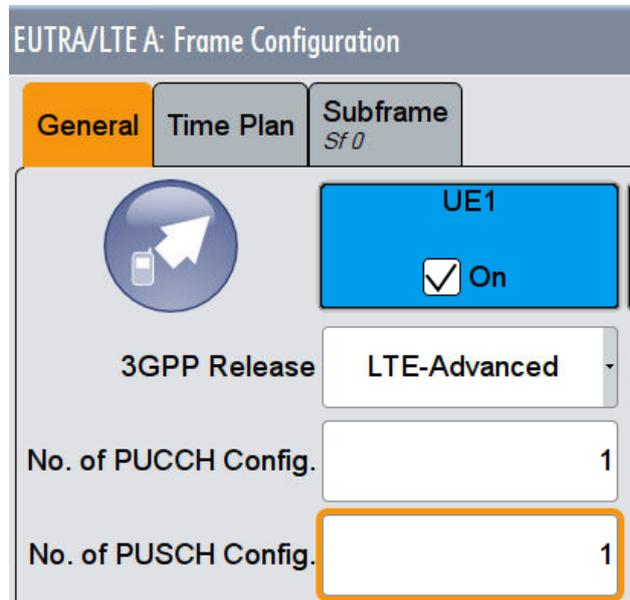

Fig. 3-36: Set one configurable PUSCH subframe. The SMW copies the setting to the other subframes automatically.
4. Set **No of PUSCH Config** to 1 (Fig. 3-36). In this case, only one subframe has to be configured. The configuration is automatically copied to all other subframes.